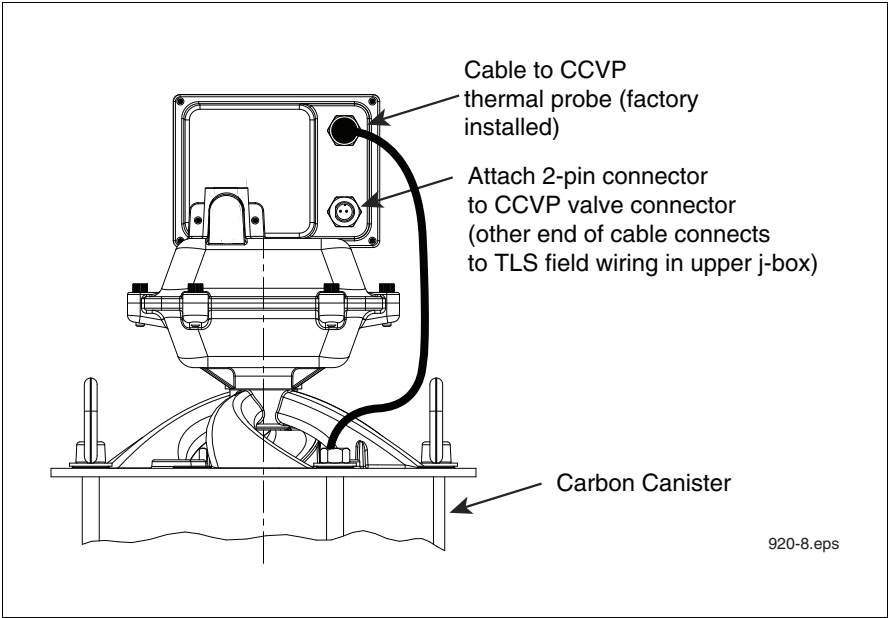

Figure 4. Locating the CCVP vapor valve connector
11. Connect the two-pin connector of the 6-foot cable provided in the installation kit to the CCVP vapor valve, observing plug polarities (see Figure 4). The other end of this cable is passed through a kit supplied cord grip in the upper junction box.